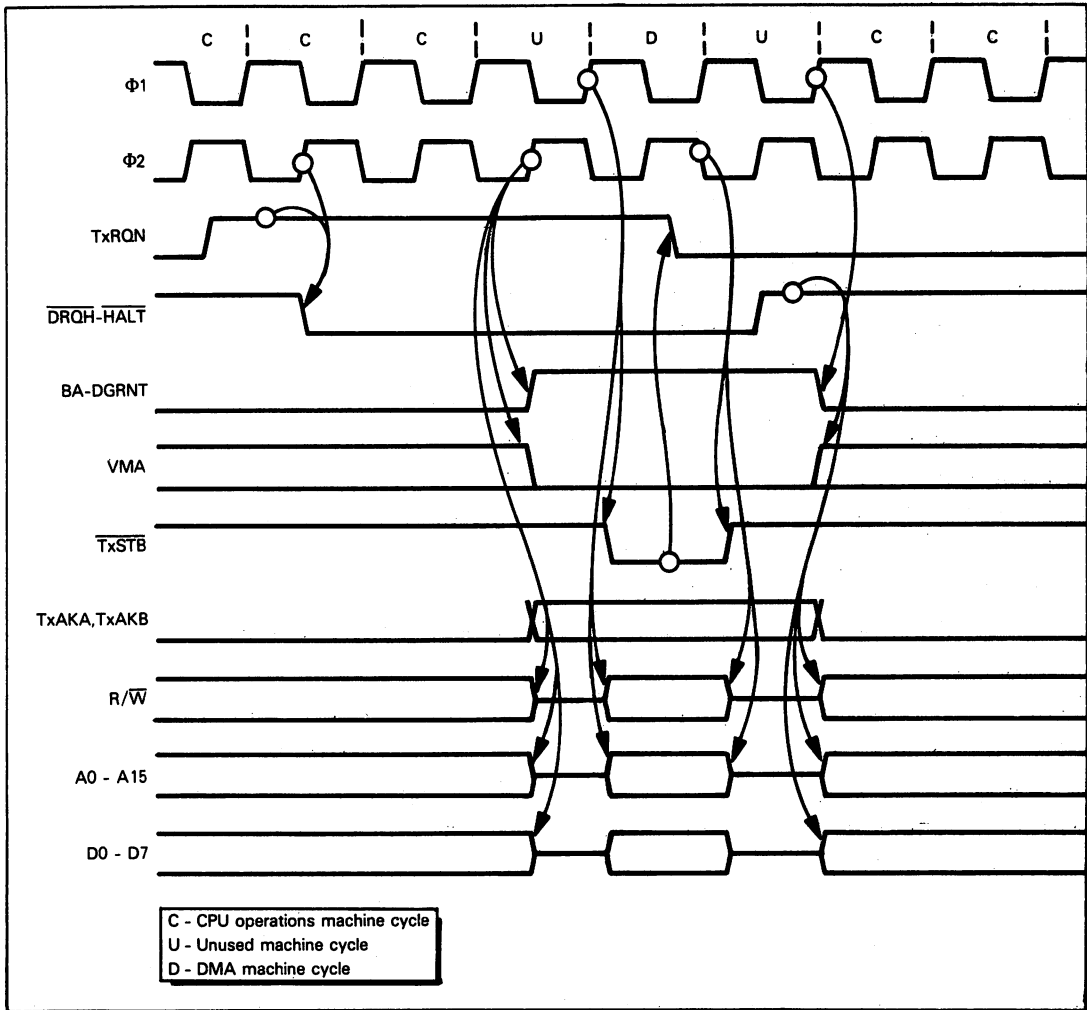
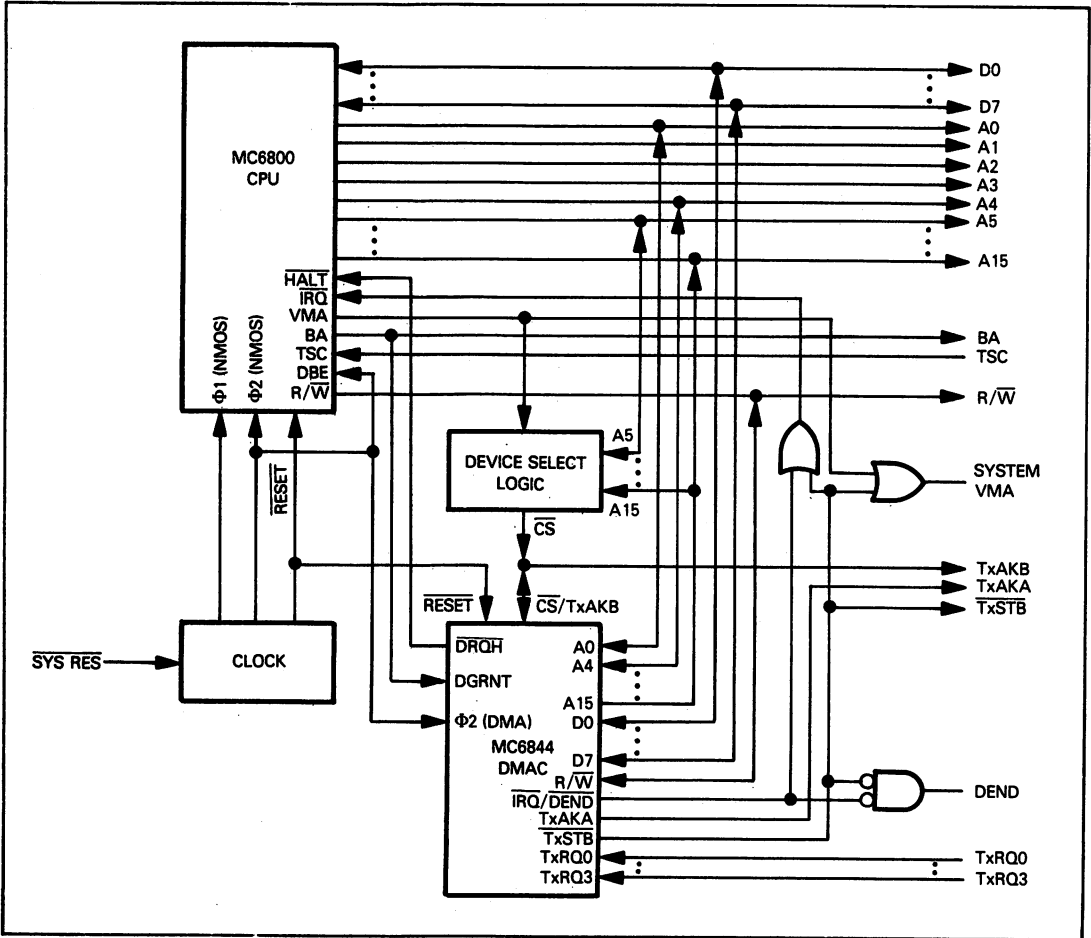

Figure 9-35. Timing for Halt. Cycle Stealing Direct Memory Access with the MC6844
Figure 9-36. An MC6844 DMAC Connected for Halt Cycle Stealing or Halt Burst Direct Memory Access
**The next DMA operating mode we are going to look at is the Halt Cycle Stealing mode.** In this mode the CPU is halted for three machine cycles, during which a single byte of data is transferred. Timing is illustrated in Figure 9-35 and appropriate pin connections are illustrated in Figure 9-36.
A DMA transfer is initiated by one of the four DMA request signals TxR0 through TxR3 going high. These signals are sampled on the rising edge of  $\Phi 2$ . The MC6844 responds to a high DMA transfer request by outputting DRQH low. In the Halt. Cycle Stealing mode, DRQH must be input as the MC6800 CPU halt request. As explained earlier in this chapter, when a low input occurs at HALT, the MC6800 CPU completes executing its current instruction, then enters a Halt state. During the Halt state, VMA is output low while the Address and Data Busses, along with the R/W control signal, are floated. In Figure 9-35 the Halt state is shown beginning one full machine cycle after DRQH goes low.
The VMA signal used by the system must now be the OR of VMA and TxSTB. The external device whose DMA request has been acknowledged must detect the low TxSTB signal and use it to reset its DMA request. If the DMA request is still active after a single byte of data has been transferred via DMA, then a single instruction will be executed before the next byte of data is transferred via direct memory access. One instruction will be executed even if TxRQn remains high, because in Halt Cycle Stealing mode the MC6844 will return its DRQH signal high as soon as a single byte of data has been transferred via direct memory access. This will free the CPU to execute another instruction, and while this new instruction is being executed the whole timing process illustrated in Figure 9-35 will begin again.
**The third and last MC6844 DMA mode is the Halt Burst mode.** This differs from Halt Cycle Stealing mode in that once a Halt condition has been initiated, it is maintained while data is transferred via direct memory access until the Byte Count register has decremented to 0. Thus, Halt Burst mode timing will differ from Figure 9-35 only in that  $\overline{\text{DRQH}}$  will remain low until the channel's Byte Count register decrements to 0. This will happen irrespective of the level on the DMA request line TxRQn. Note that, as illustrated in Figure 9-35, one byte of data will be transferred via direct memory access in three machine cycles, even when operating in Halt Burst mode. Pin connections for Halt Burst mode are as illustrated in Figure 9-36.